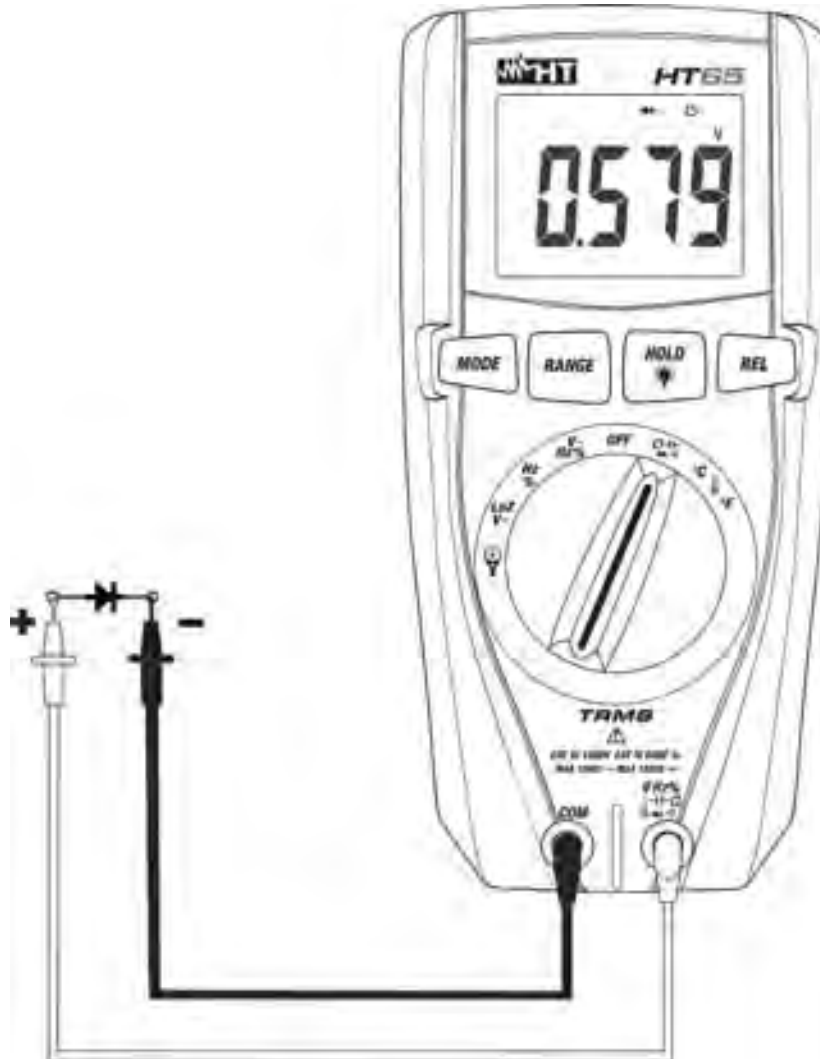

Fig. 7: Use of the instrument for diode test
4. Position the leads at the ends of the diode to be tested (see Fig. 7), respecting the indicated polarity. The value of directly polarized threshold voltage is shown on the display.
6. If the display shows the message “**OL**”, the terminals of the diode are reversed with respect to the indication given in Fig. 7 or the P-N junction of the diode is damaged.